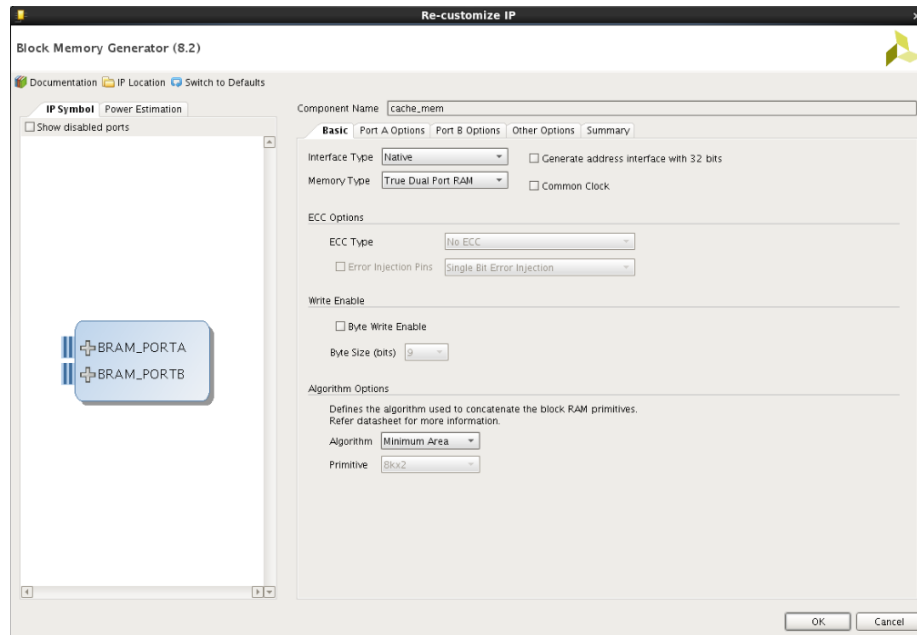

Figure 12: Block Memory Generator Basic
- Set the *Basic* options according to Figure 12: